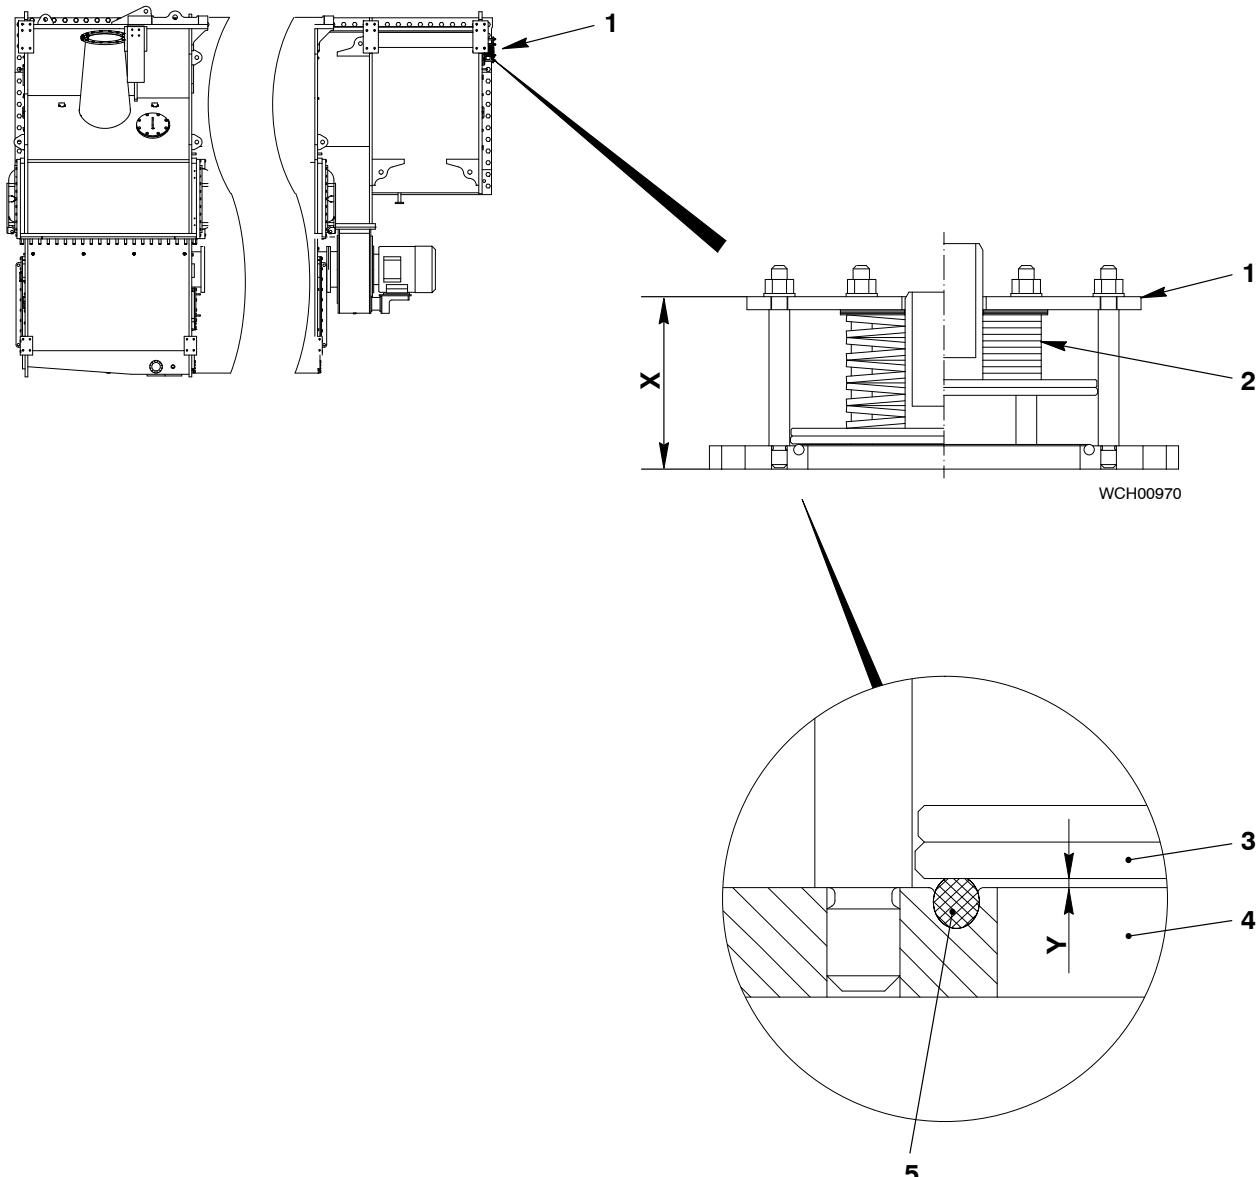

Fig. 4: Relief Valve
- a) Do a visual check for damage and corrosion. If necessary, replace the relief valve (1, Fig. 4).
- b) Make sure that there is a clearance Y between the flange (4) and the seal plate (3), i.e. the O-ring (5) is serviceable.
- c) Make sure that the distance X is 133 mm, i.e. the pressure of the disc springs (2) is sufficient.